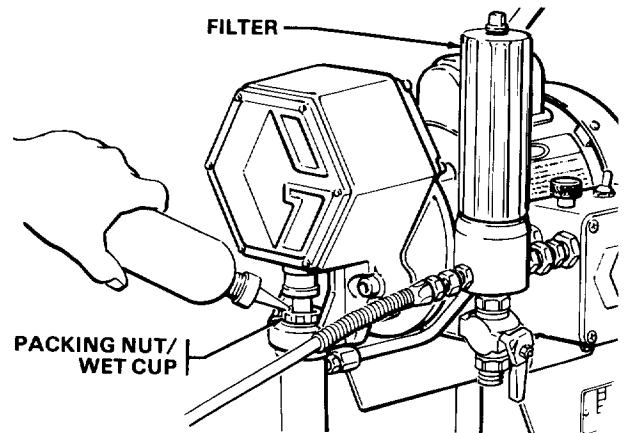

Fig 2
3. Never install any shutoff device between the filter and the main hose. See Fig 2.
2. **Fill Packing Nut/Wet-Cup** (See Fig 2.)